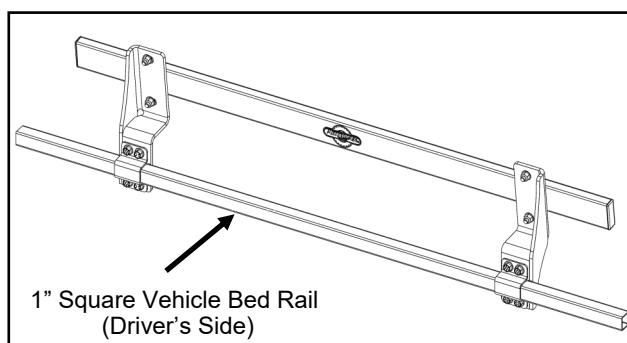

Fig. 2
2. Figure 2 shows the tool bar mounted to a 1" square vehicle bed rail, facing inwards. This offers the most protection for installed tool bar accessories, with the tradeoff of taking up bed space. Chainsaws and long handle tools may not be installable on the tool bar in this orientation.